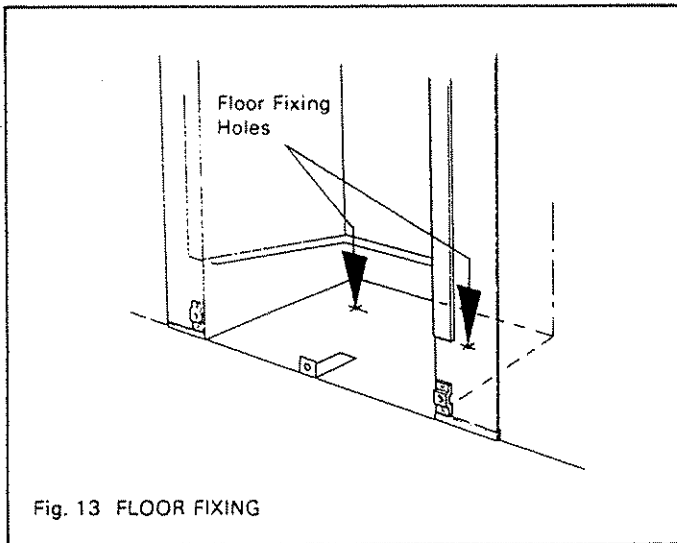

Fig. 13 FLOOR FIXING
- 7.1.2.9 Drill a hole into the fireplace floor through each of the two holes in the base of the convection box base using a No. 12 masonry drill (see fig. 13).